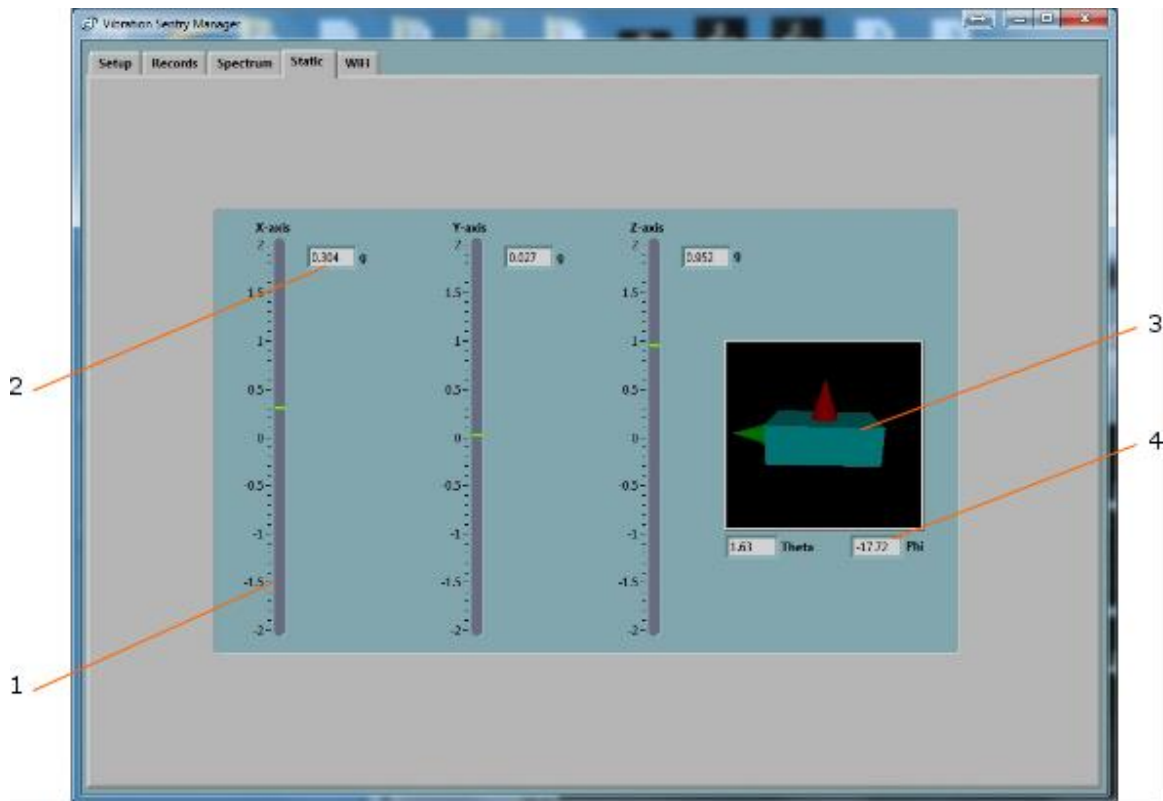

Figure 13 Static Tab
- **The Static Tab:** Is used to display static acceleration, inclination, and to check calibration against the acceleration of gravity (see Figure 13).